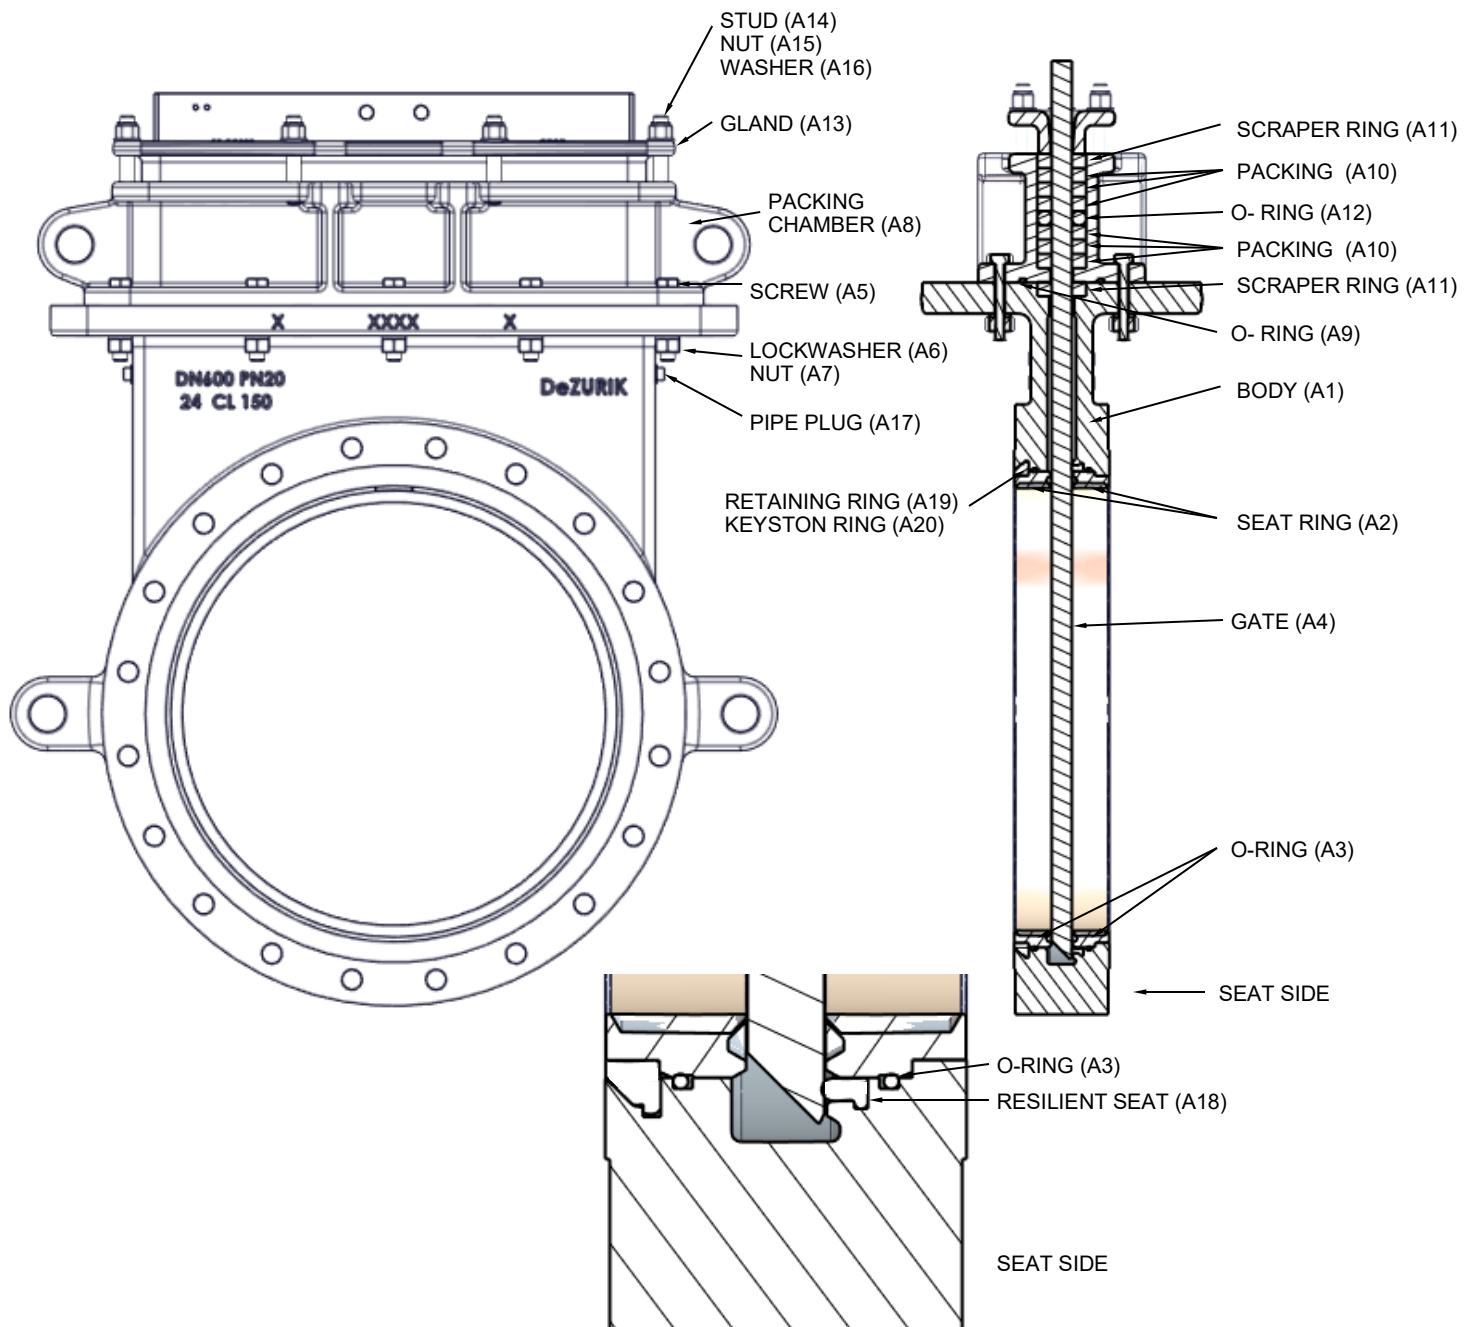

Figure 1—Component Identification
The gate packing is contained and compressed by the packing gland (A13). See Figure 1 and Figure 2 for component identification.
See Figure 1 for component identification.
- a. Note the gate side and body side of the seat as shown in Figure 1 (enlarged view).